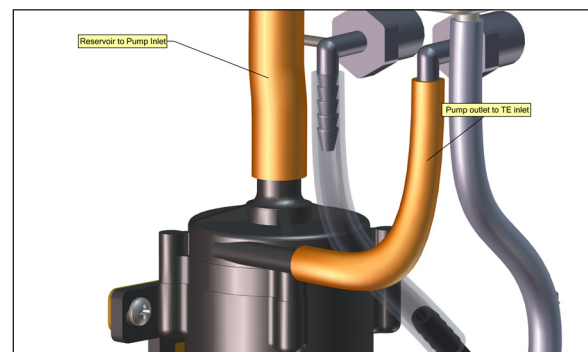

Figure 71 - Step 3 slide tubing onto new pump
3. Slide the discharge and inlet tubing all the way onto the new pump (Figure 71).